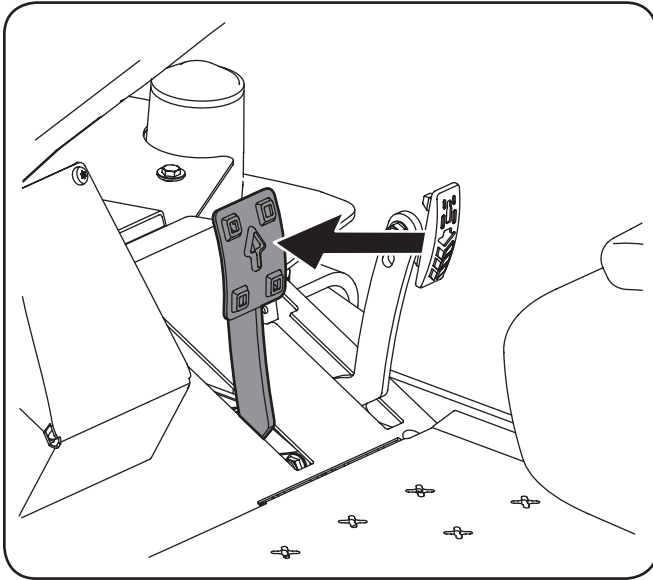

Figure 5-1
1. Slowly push the forward drive pedal forward. The tractor will start to move forward. See Fig. 5-1.